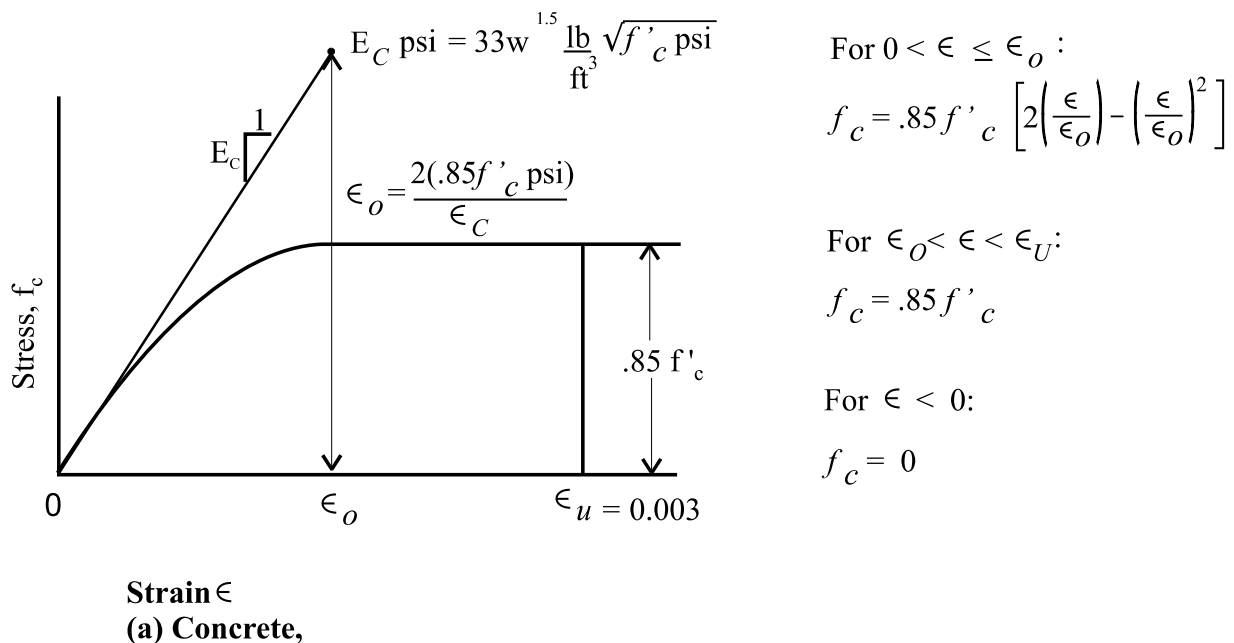

Figure 11.1
(2) Computations of strength are based on the satisfaction of the applicable conditions of equilibrium and compatibility of strains. The stress-strain relationship for concrete is assumed as shown in Figure 11.1